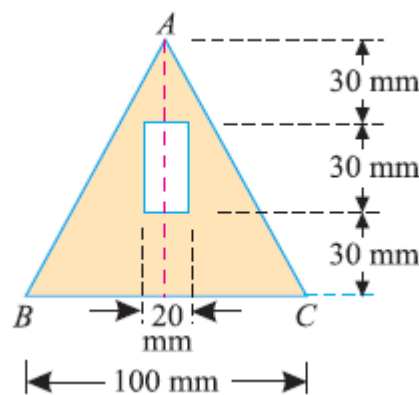

Fig.23
7. A rectangular hole is made in a triangular section as shown in Fig.23. Determine the moment of inertia of the section about X-X axis passing through its centre of gravity and the base BC.